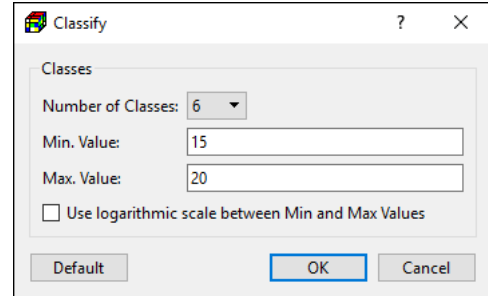

Figure 149. The Classify dialog box
- **Classify:** Click this button open the Classify dialog box (Figure 149) that is used to define the range of values and number of classes. If *Min. Value* and *Max. Value* are both positive, the option of *Use logarithmic scale between Min and Max Values* is available. Click the Default button to reset *Min. Value* and *Max. Value* to the values found in the data of the current layer.